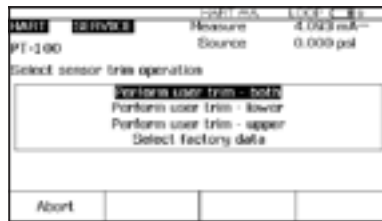

Figure 8.
- If the As Found test failed (i.e., there were highlighted errors in the error summary table), adjustment is necessary. Press the **Adjust** softkey. Select **Sensor Trim** and press **ENTER**. (Do not select **Pressure Zero Trim**. It is the same as trimming the lower sensor point at zero, which is useful for pressure transmitters that do not offer Sensor Trim.) The 754 screen should look like Figure 8.